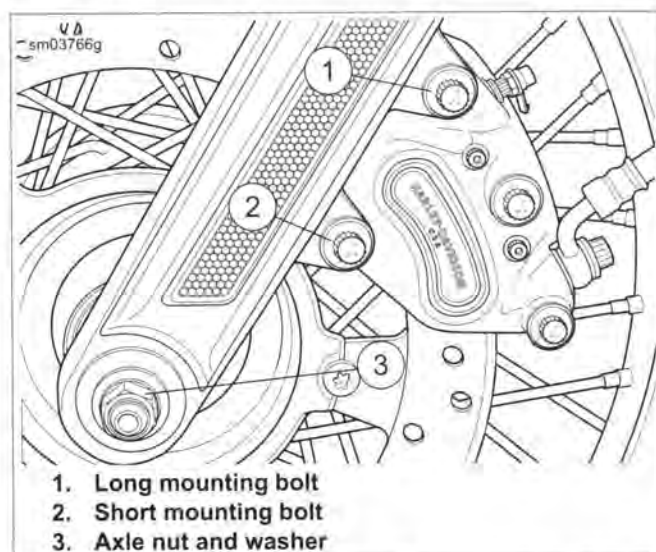

Figure 2-3. Front Caliper and Axle Mounting (Left Side)
3. See Figure 2-3. Remove mounting bolts (1, 2). Remove brake caliper. Support caliper using a rubber bungee cord.